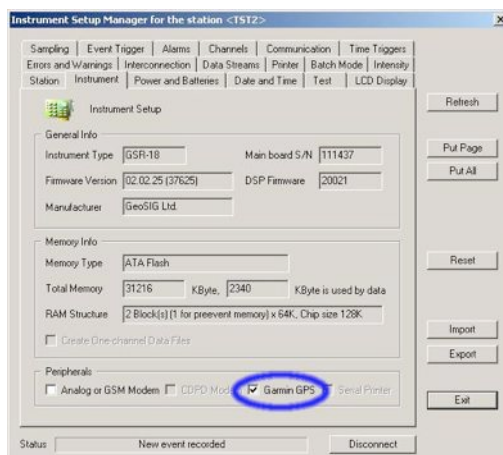

Figure 14. Selecting GPS as peripheral device
- On “Instrument” tab, “Garmin GPS” option should be ticked as a peripheral device as shown on Figure 14.